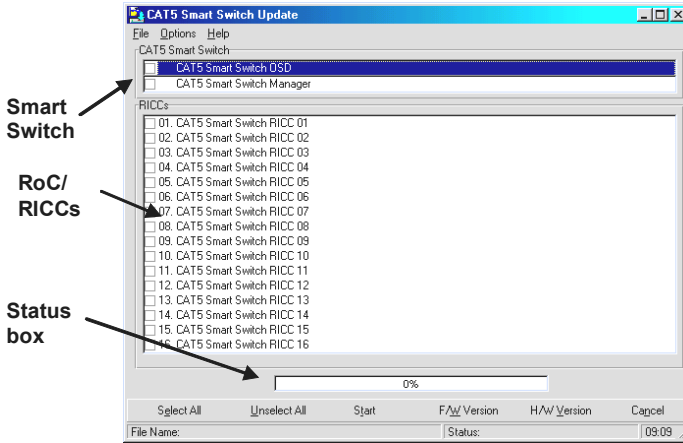

Figure 28 Smart CAT5 Switch Update window
1. Start the Smart CAT5 Update software. The Smart CAT5 Update window appears. See Figure 28.
1. In the **Switch Unit** box, check the OSD option. See Figure 28.